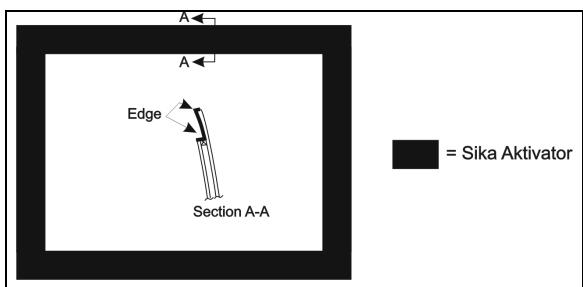
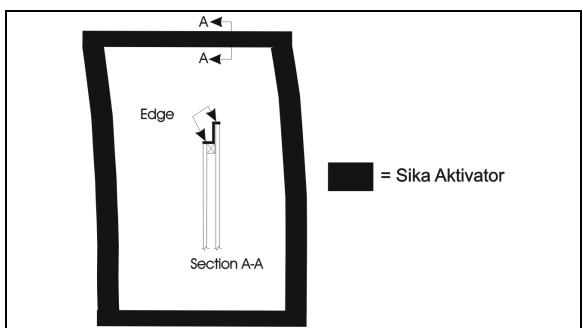

FIGURE 57 : HALF-WINDOW - SIKA AKTIVATOR
FIGURE 58 : SIDE WINDOW - SIKA AKTIVATOR
5. Apply Sika Aktivator on the window pane as per FIGURE 57 (half-window) or FIGURE 58 (side window);